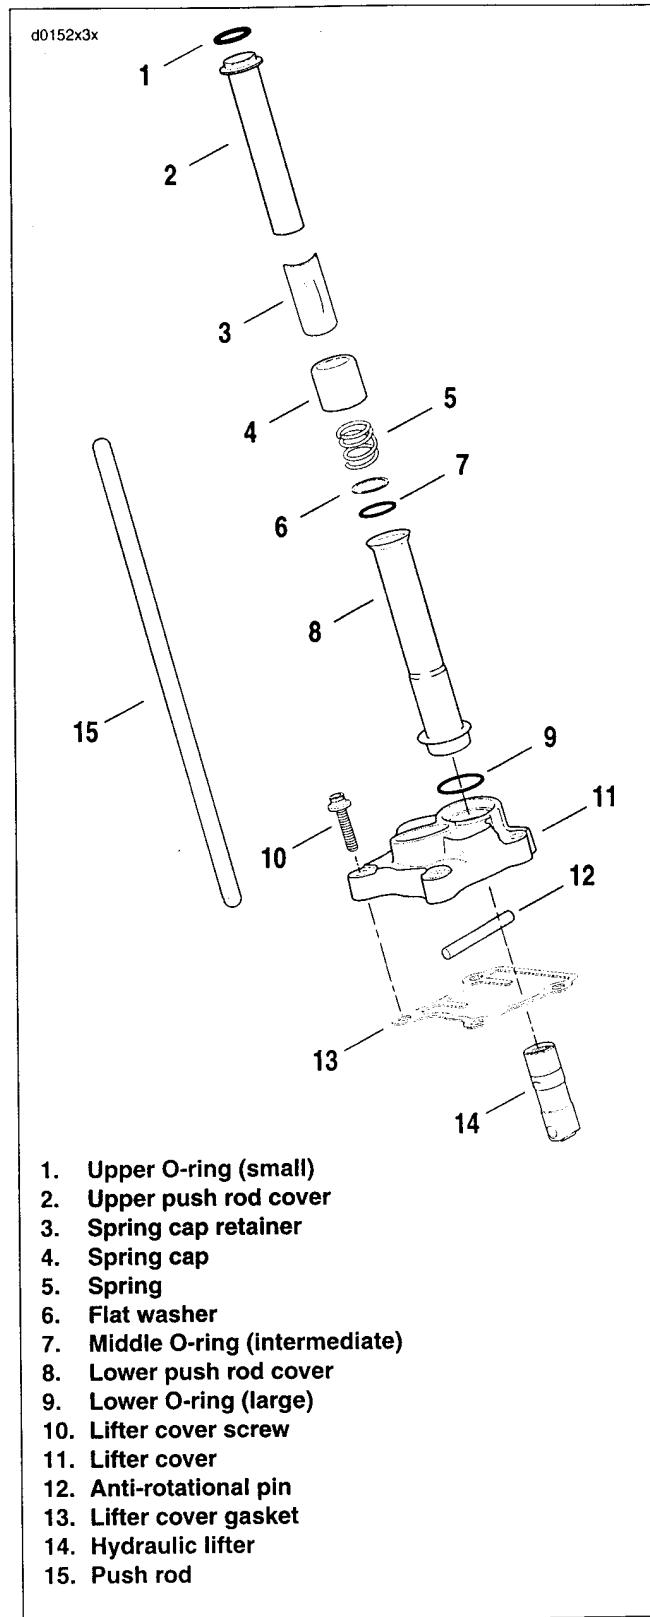

Figure 3-88. Push Rods, Lifters and Covers
See Figure 3-88. With the exception of the lifter covers, all parts should have been disassembled and marked during the removal procedure. Disassemble the lifter covers as follows:
1. See Figure 3-88. Scrape old gasket material from the lifter cover (11) flange. Old gasket material left on mating surfaces will cause leaks.
2. With the exception of the hydraulic lifters (14), clean all parts in a non-volatile cleaning solution or solvent. Verify that the O-ring seats and contact surfaces of the push rod covers (2, 8) are completely clean.